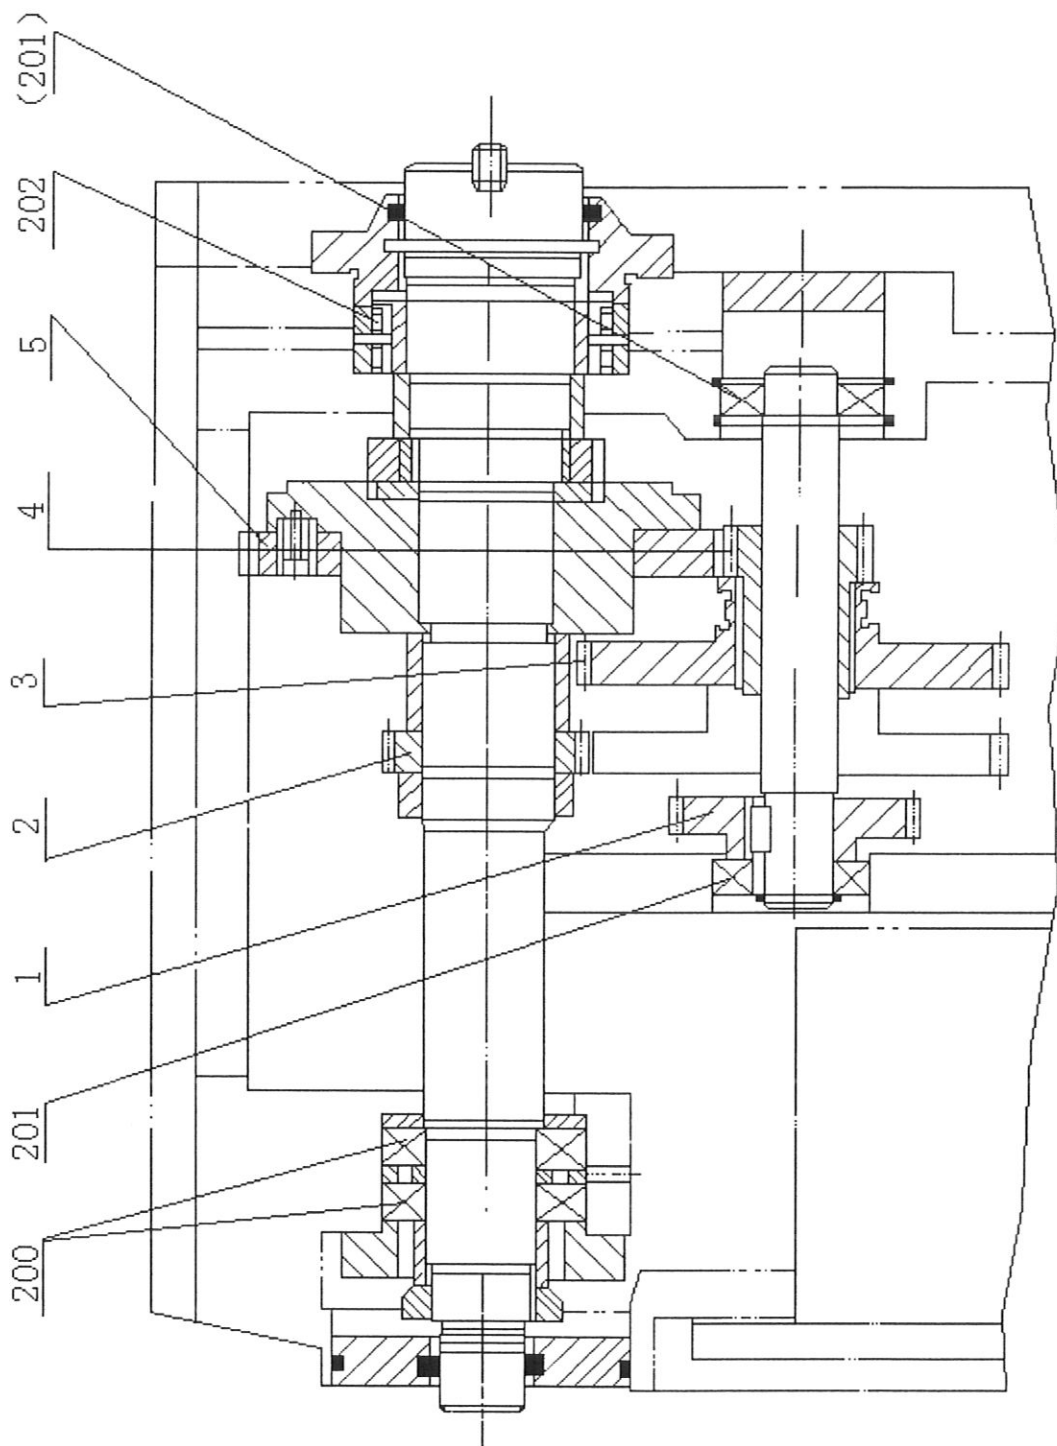

Fig.4 Structure of main drive gear-box
3.3.2..2 Spindle speed & its structure(see Fig.4)